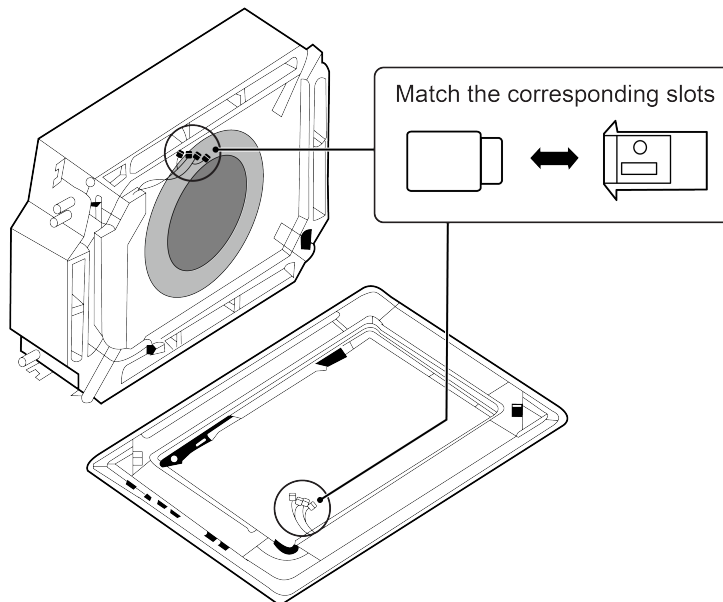

Fig.4.5.3
(3) Connect the decoration panel terminals (Female) to body terminals (Male) as shown in Fig.4.5.3.